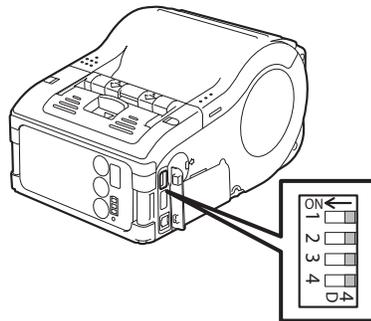

**Figure 4-4, Printer with DIP Switch Cover Open**
2. You can pry open the DSW switch cover so that the DIP switches are accessible to you. Use a small screwdriver to pry outward the small black vinyl cover labeled DSW on corner of unit as it is shown in Figure 4-4.
3. Look straight downward into the DIP switch compartment or panel in order to see the white DIP switches. Next to switch number 1 is a directional arrow showing the On setting direction. Off is in the opposite direction. Figure 4-4 also shows the On arrow.